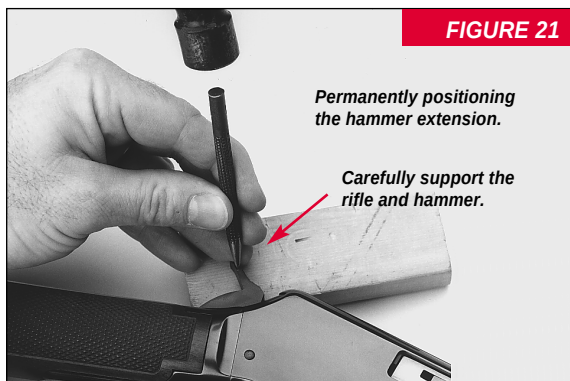

FIGURE 21
5. Once the position of the extension has been finalized it is important to "set" it permanently in place. Do this by tightening the set screw enough that it leaves a mark on the side of the hammer. Then remove the extension. Support the hammer on a firm work bench or padded anvil and center punch the mark left by the set screw. The gun and hammer must be well supported during this operation (Figure 21).